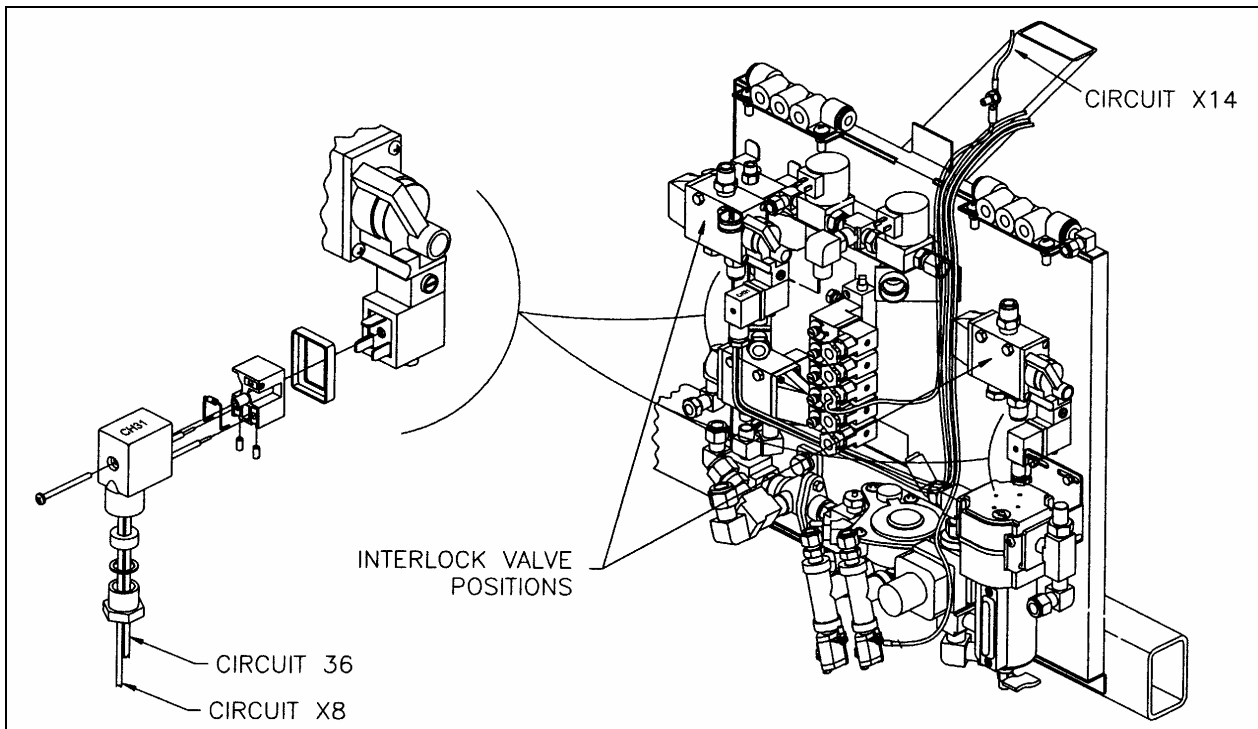

FIGURE 7: INTERLOCK VALVE CONNECTIONS
- Connect wire X14 to interlock valve ground (refer to figure 7).
- Remove #2 red wire from interlock valve connector (refer to figure 7).
- Connect supplied wire #36 to interlock valve connector (refer to figure 7).